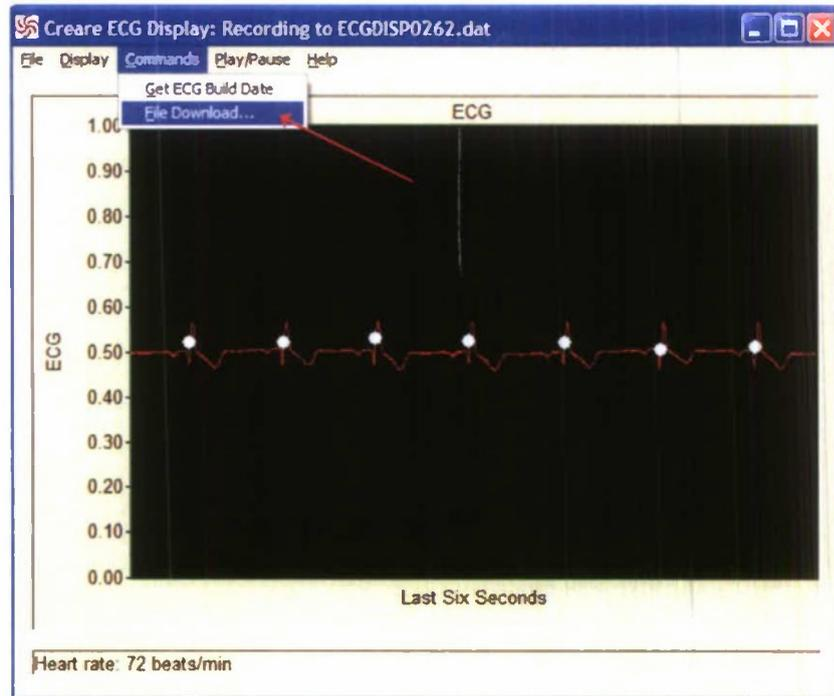

Figure 19. Starting the File Download Tool in the DHMS Software
1. Start the File Download Tool. In the DHMS software on the PC, start the file download tool under the **Commands** menu as shown in Figure 19.